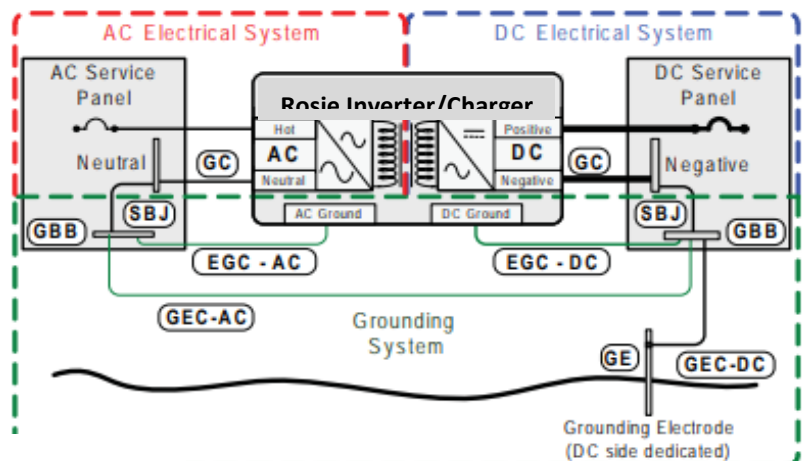
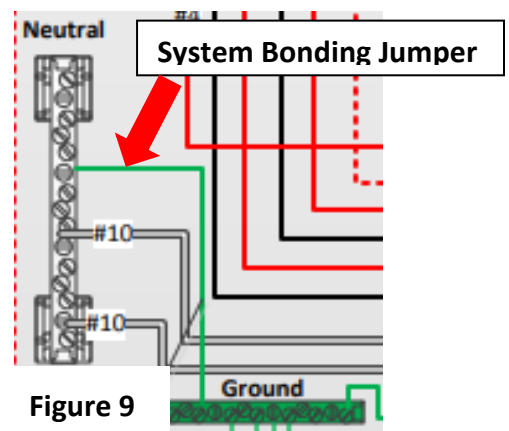

Figure 8
Figure 9
- **Equipment Grounding** – Grounding for exposed metal parts, like the inverter chassis, solar panel frames, etc. **See Figure 8.**
- **System Grounding** – The bonding of a current-carrying wire to earth ground, such as the two SBJs shown in **Figure 8** or the single SBJ shown in **Figure 9.**
Reference **Figure 8** below for grounding system terminology.
**Conductor (GEC)** – A wire or cable that does not carry current and connects the Grounding Electrode (GE; ground rod) to the Grounded Conductor (GC) and the Equipment Grounding Conductor (EGC).
**Grounding Electrode (GE)** – ground rod.
**System Bonding Jumper (SBJ)** – The connection between the Grounded Conductor (GC) and the Equipment Grounding Conductor (EGC). **Figure 9** shows an SBJ from a MidNite E-panel, in this case it's a Neutral-to-Ground bond.